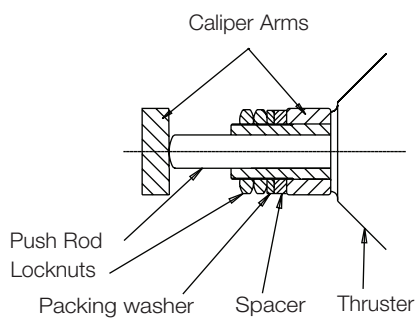

Fig 1. Assembly for 8mm disc
2. Fit Packing washer and spacer (see fig 1 and 2 below)